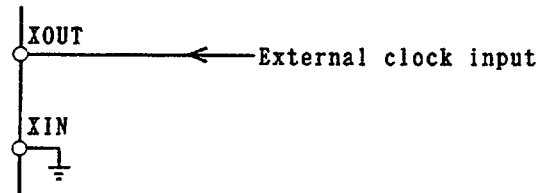

Fig.4
- For external clock operation, if the high(H) level of the input clock signal amplitude equals to or is greater than 1.5V, and the low(L) level equals to or is smaller than 0.5V, then connection should be made as shown in Fig.4. If the input clock signal amplitude (peak-to-peak) equals to or is smaller than 1V, and equals to or is greater than 200mV, then AC coupling should be as illustrated in Fig.5.